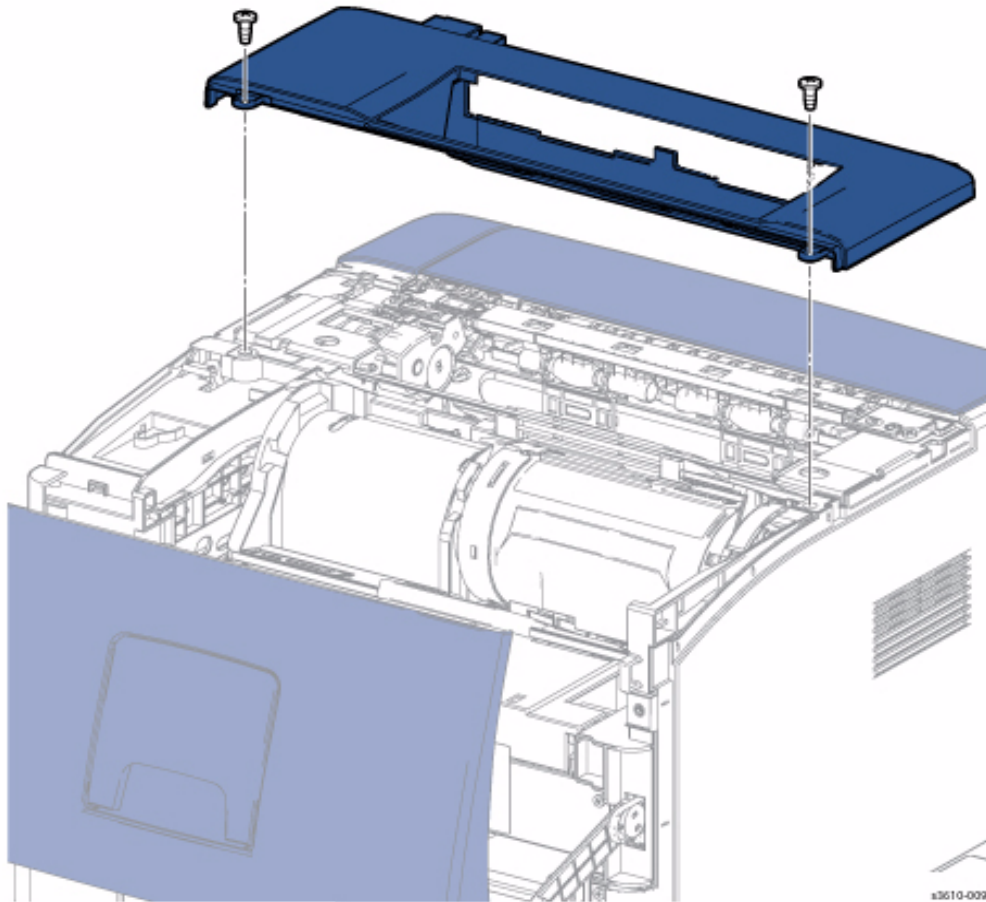

Figure 1
4. Remove the Top Cover Assembly. (Figure 1)